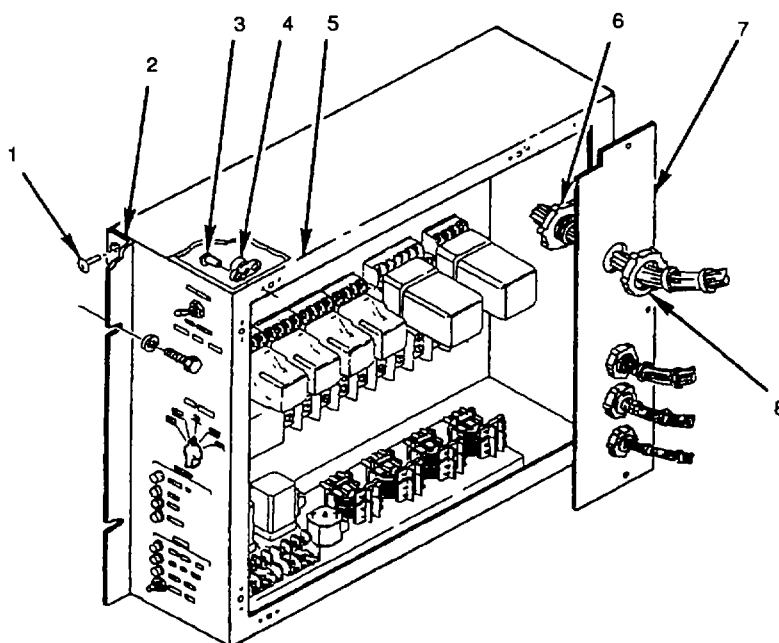

Figure 4-35. Electrical Box
- (1) Disconnect air conditioner input power at source; and
- (2) Remove control box assembly (paragraph 4.27)
- a. Inspect mounting bracket (2) for missing rivets (1). Replace if missing (see fig. 4-35).
- b. Inspect electrical box (5) for missing or damaged floating locknuts (4) or missing rivets (3). Replace if missing or damaged.
- c. Inspect wire entry panel (7) for missing or damaged bushings (6, 8). Replace if missing or damaged.